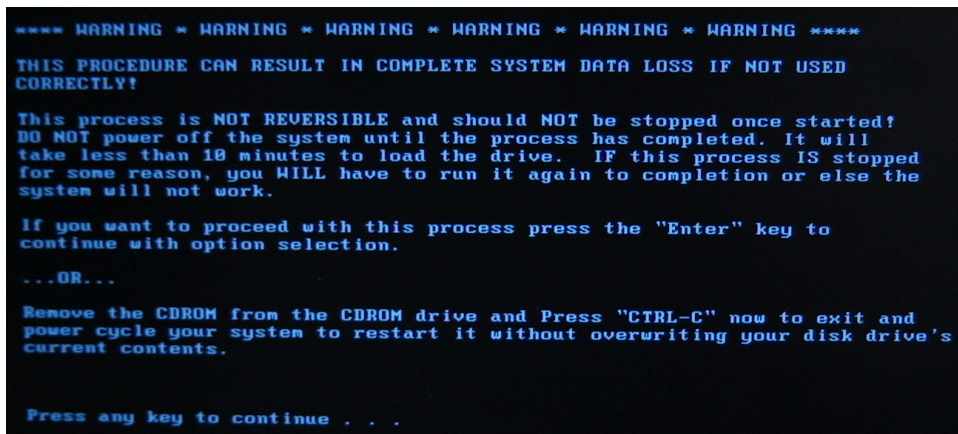

Figure 3-24 Update message
- 6.) Press any key to continue when below message display as shown in Figure 3-24 on page 3-29 .